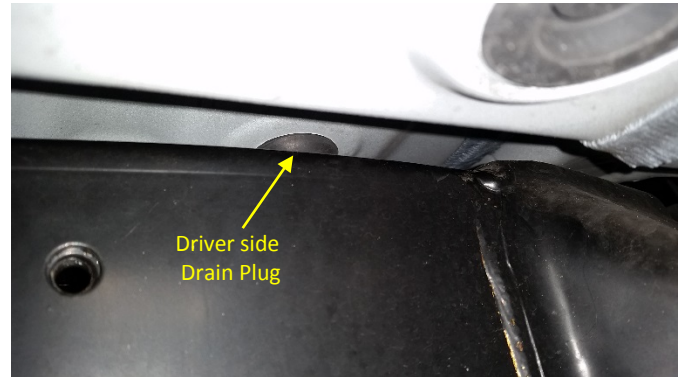

Figure 8
11. Remove left and right front drain plugs, located directly above frame rails (Figure 8).